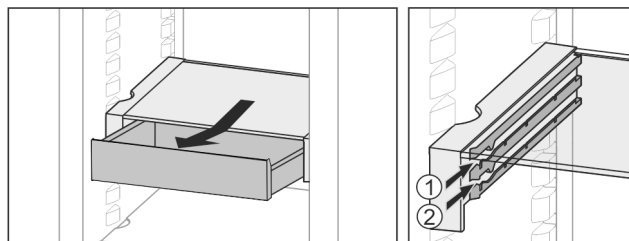

Fig. 26
- Slide in at any height Fig. 26 (1) or Fig. 26 (2).